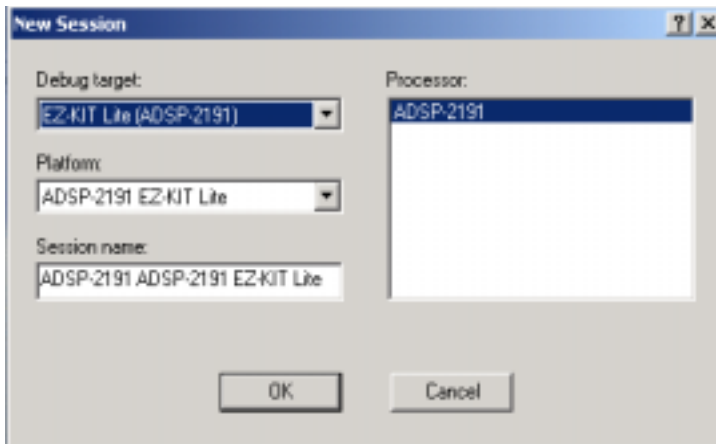

Figure 1-12. New Session Dialog Box
5. The **New Session** dialog box, shown in Figure 1-12, appears on the screen.